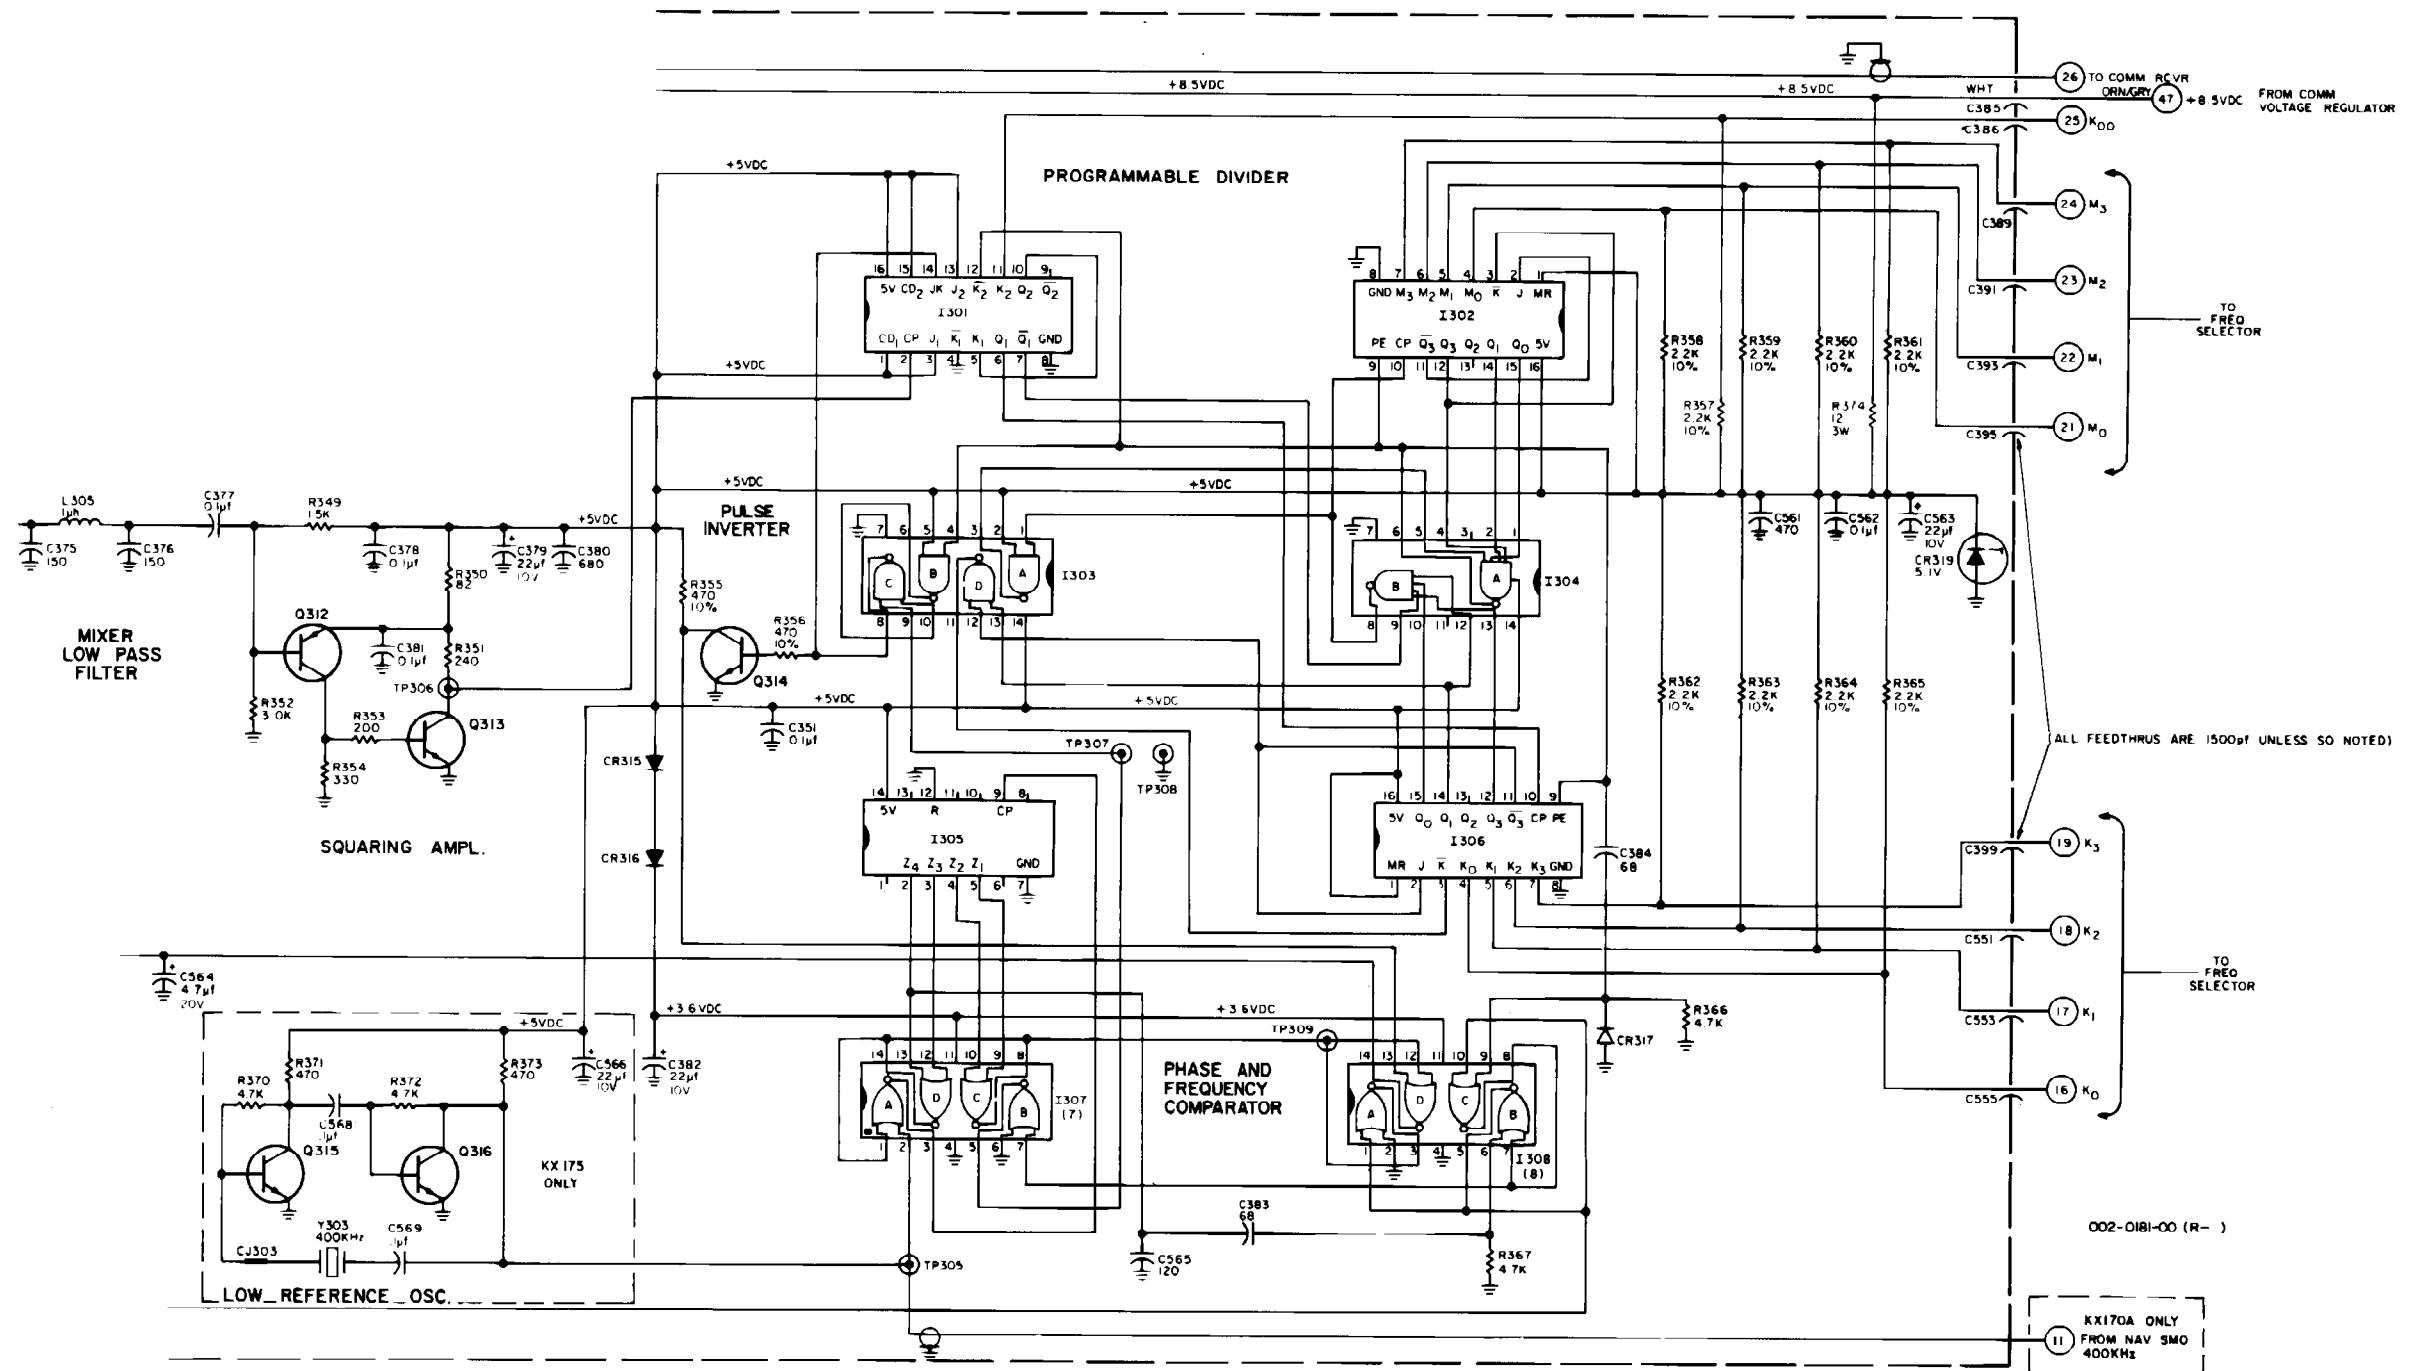

FIGURE 5-29 COMM PROGRAMMABLE DIVIDER/
5. 6. 3 PROGRAMMABLE DIVIDER (Figure 5-29)
5. 6. 4 PHASE AND FREQUENCY COMPARATOR (Figure 5-29)